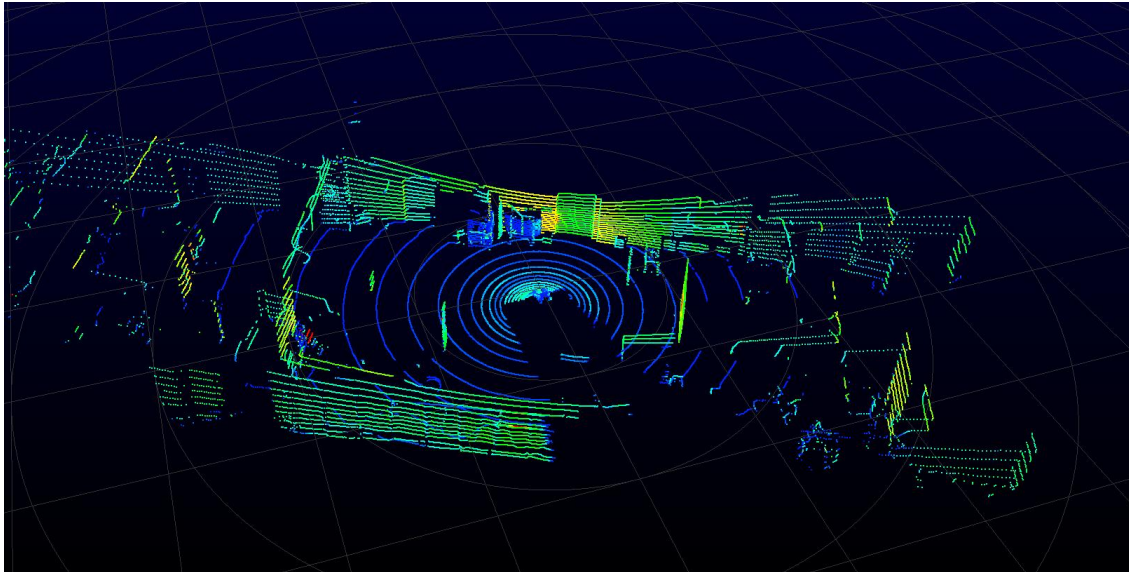

Figure C-3 Sensor Stream Data Display in RSView
5. RSView begins displaying the sensor data stream (Figure C-3). The stream can be paused by pressing the **Play** button, pressing again, the stream resumes.